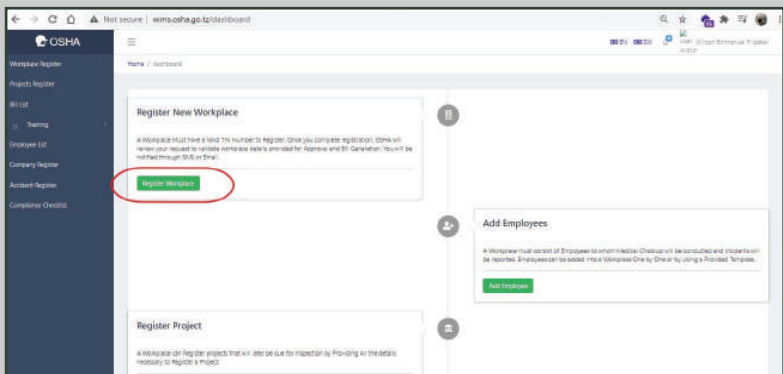

Figure 10: New workplace registration page
- i) To register workplace, click **Register Workplace** Button as shown in the Figure 10 below or use Workplace Register menu on the upper left corner;